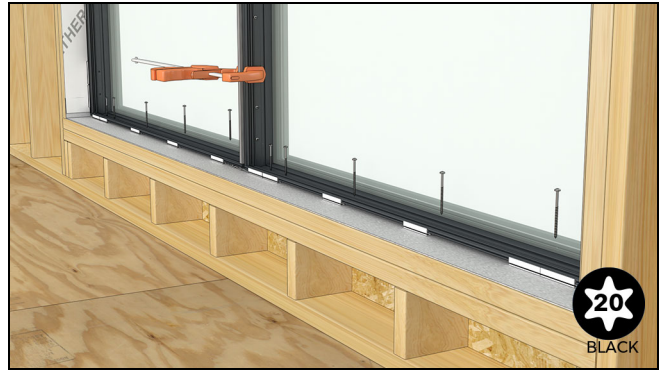

Figure 55
21. Making sure the B2 frame is aligned along the correct exterior plane, fasten the sill through pre-drilled holes in both frames. See Figure 55.